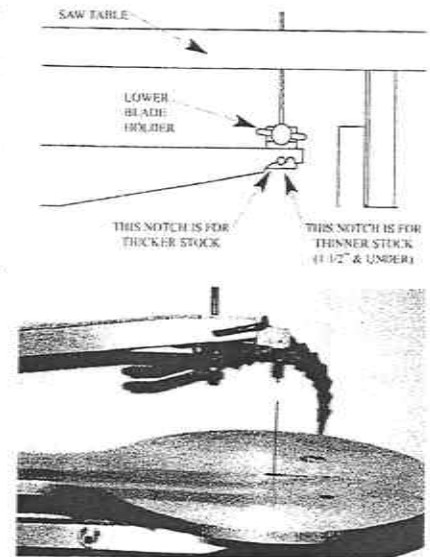

Fig. A-7
**Step #6** --- Remove the blade holder from the hold down arm and thread the blade up through the slot in the table. Be sure the teeth on the blade are facing the front of the saw. (See Fig. A-7). Slide the chuck back under the lower arm in the slot. There are two notches in the lower arm for the lower blade holder to fit into. The front one is for thinner stock --- (1-1/2" and under), and the back notch is for thicker stock (see figure on the next page).